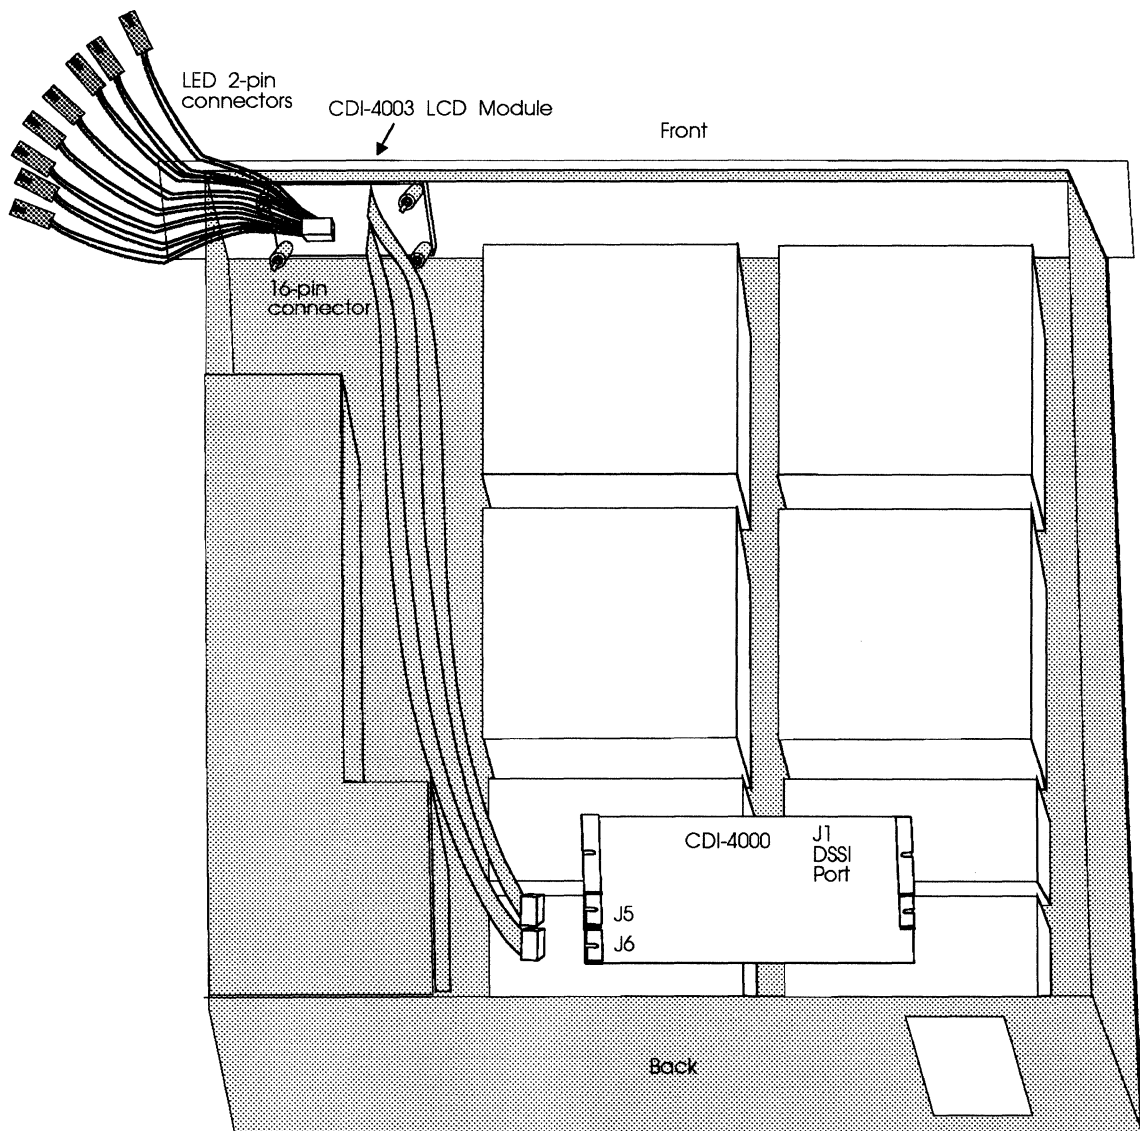

Figure 6-10: Connecting J5 and J6
- c Route the cables J5 and J6 on the side of the drives clearing the fan by using cable clamp. See Figure 6-10.